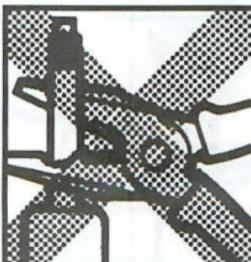

FIG. 3
**4** Do not grip polished piston rod with any tool, because any nickes or scratches on the rod will result in decreased service life. (Fig. 3)